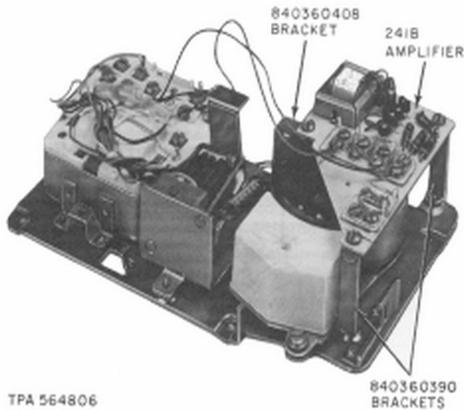

Fig. 7—Installation of D-180409 Kit of Parts
- (1) Install the three 241B amplifier mounting brackets at location shown in Fig. 7, using screws furnished with kit of parts.
- (2) Mount amplifier to brackets with screws furnished in kit of parts.